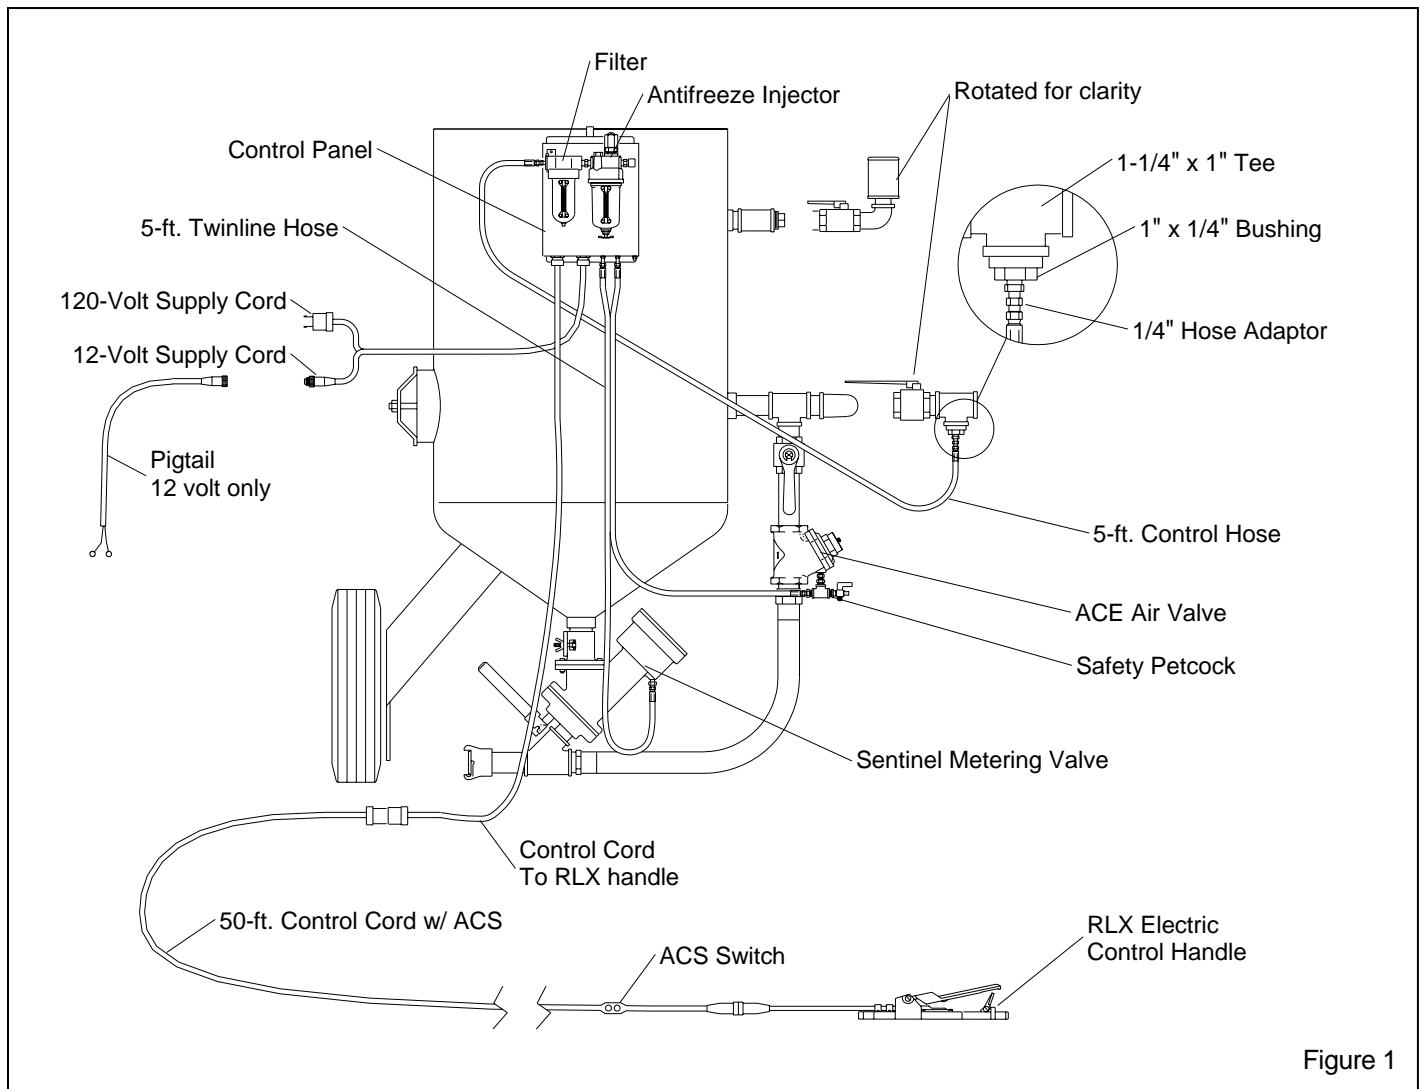

Figure 1
1.3.1 The components of the Sentinel Electric remote control system are shown in Figure 1. They include the Sentinel abrasive metering valve, ACE air valve, RLX electric control handle, electric panel assembly, 50-foot control cord with abrasive cut-off switch (ACS), all interconnecting control hoses, and all necessary fittings.
1.4.2 Sentinel electric remote controls (electric over pneumatic) operate pneumatically (See Figure 1). When the machine is manually pressurized, control air travels through the filter and antifreeze injector, and into the control panel. If the electric control handle lever (which is the main activator of the system) is in the up (no blast) position, air stops at the control panel and the media and air valves remain closed. Pressing the electric control handle lever allows air to pass through the panel to open the media and air valves, which starts the blasting process. When the control handle is released, control air exhausts at the panel, the valves close and blasting stops.
2.2.8 Connect the manual inlet valve and a second tee (tee #2) to the blast machine as shown. NOTE: The second tee and all fittings necessary to complete the assembly shown in the detail circle in Figure 1 are included with the remote system.
2.2.9 Refer to the detail circle in Figure 1, and install the bushings and 1/4" hose adaptor.
2.2.10 Assemble a manual outlet valve assembly, and install it as shown. NOTE: Clemco supplies an exhaust muffler with all blast machines 1.5 cubic feet and larger. The muffler reduces exhaust noise and directs the exhaust downward, which prevents abrasive from exhausting into the air. When the blast machine is depressurized, the muffler body will pop up and diffuse the escaping air and abrasive. When the machine is fully depressurized, the muffler body will drop, permitting trapped abrasive to empty. For the muffler to work properly, it must be installed with the body facing up, as shown in Figure 1.
2.3 Blast Hose and Control Hose Connections Refer to Figure 1.